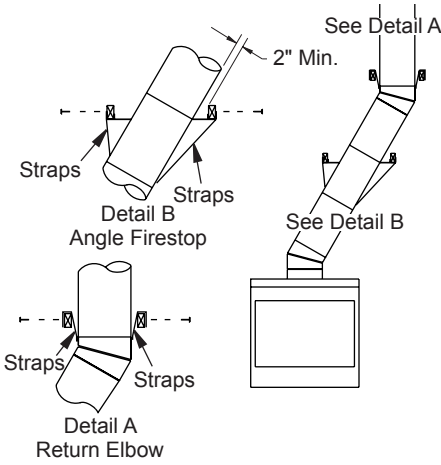

Figure 8 - Ceiling Support Pipe
- Chimney weight above offset rests on return elbow. Straps must be securely nailed to rafters or joists (see Figure 8, details a & b on page 8).